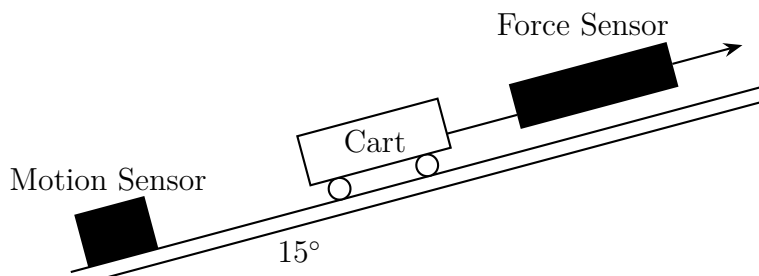

Figure 1: Set up for Experiment 1.
4) Attach a short string to the front of the cart and make a loop on the other end to go around the force sensor hook. Place and hold the cart about 20 cm from the motion sensor on the track. The force sensor should be lying down on the track or held just above the track so that if you were to pull it upward, the cart would follow the force sensor up the ramp. You want the string between the force sensor and cart to be parallel with the track (see Figure 1).